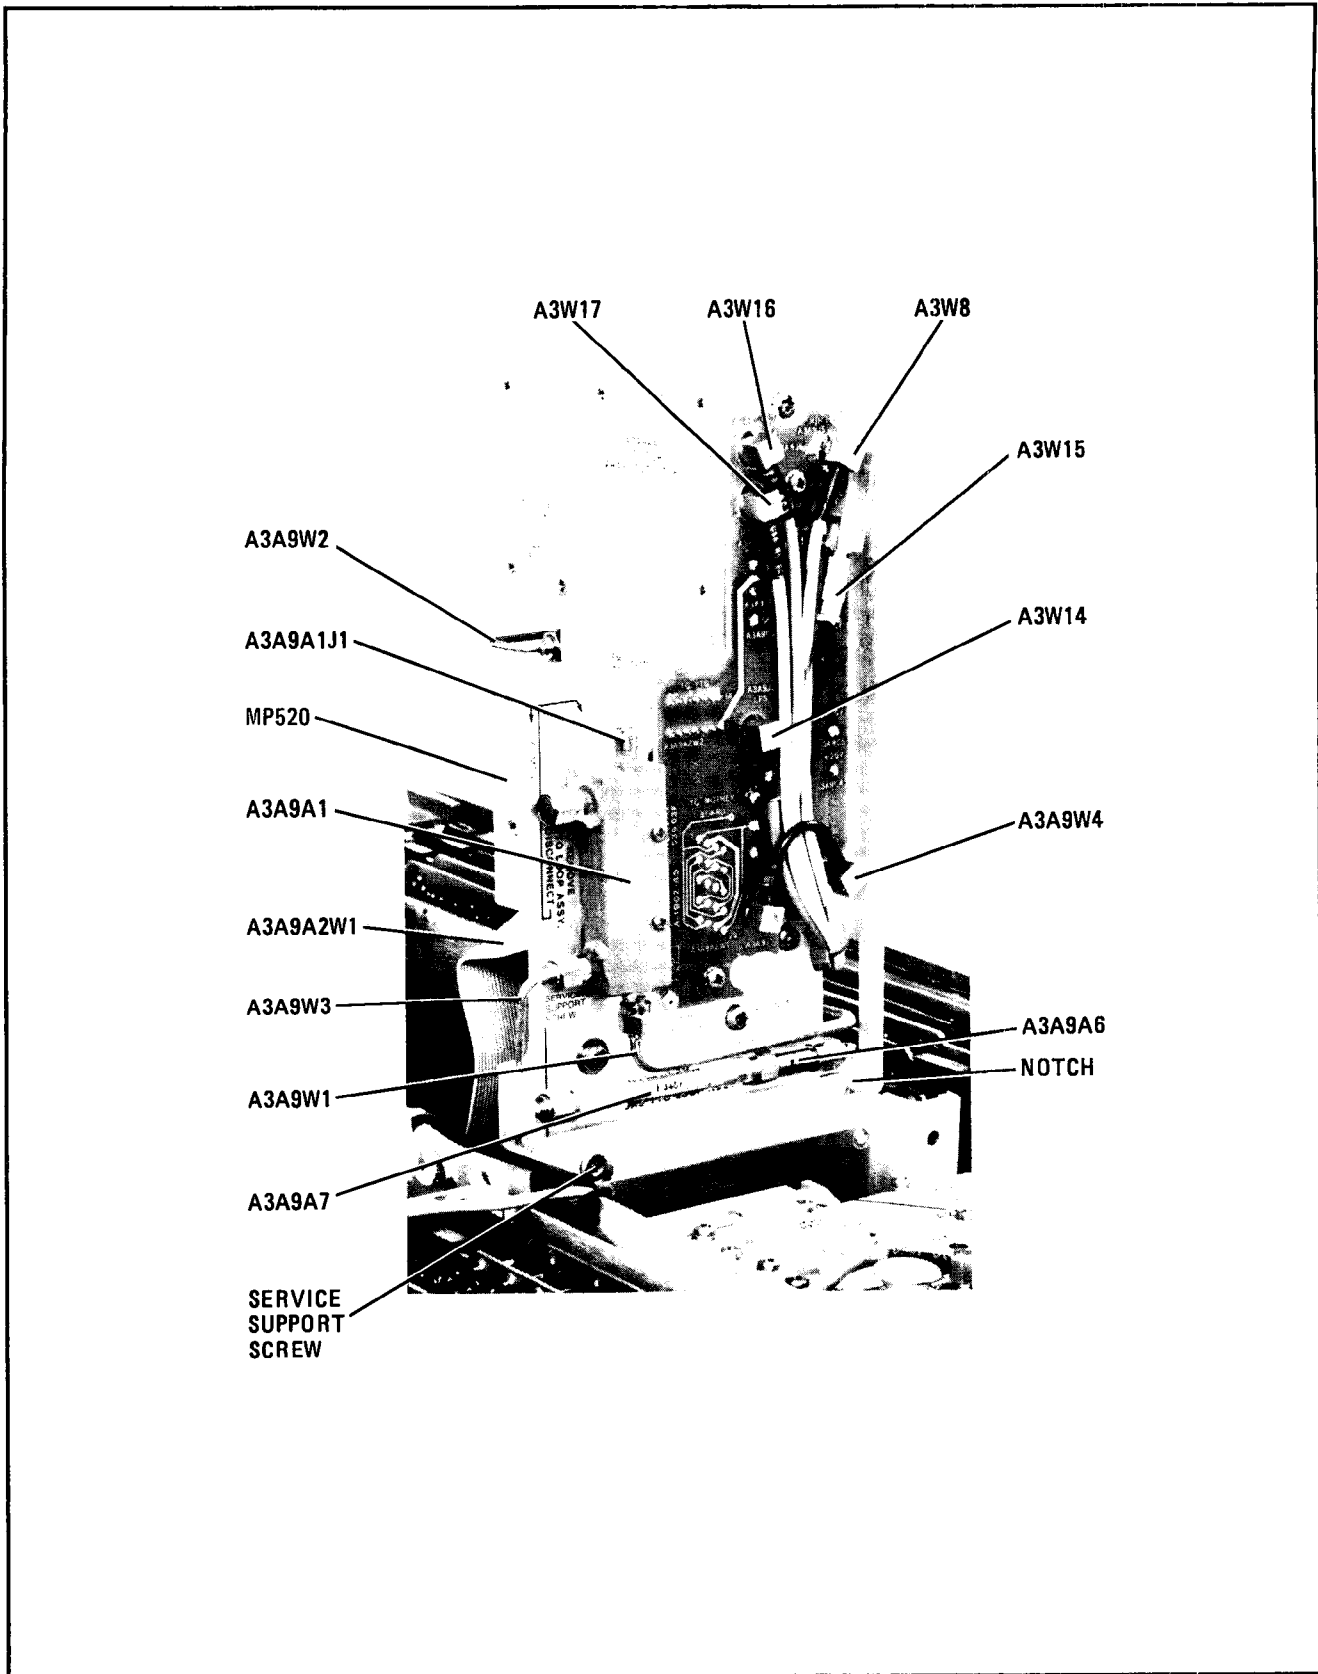

Figure 8-131. YTO Assembly In Service Position
5. Refer to figure 8-131 for the following steps.